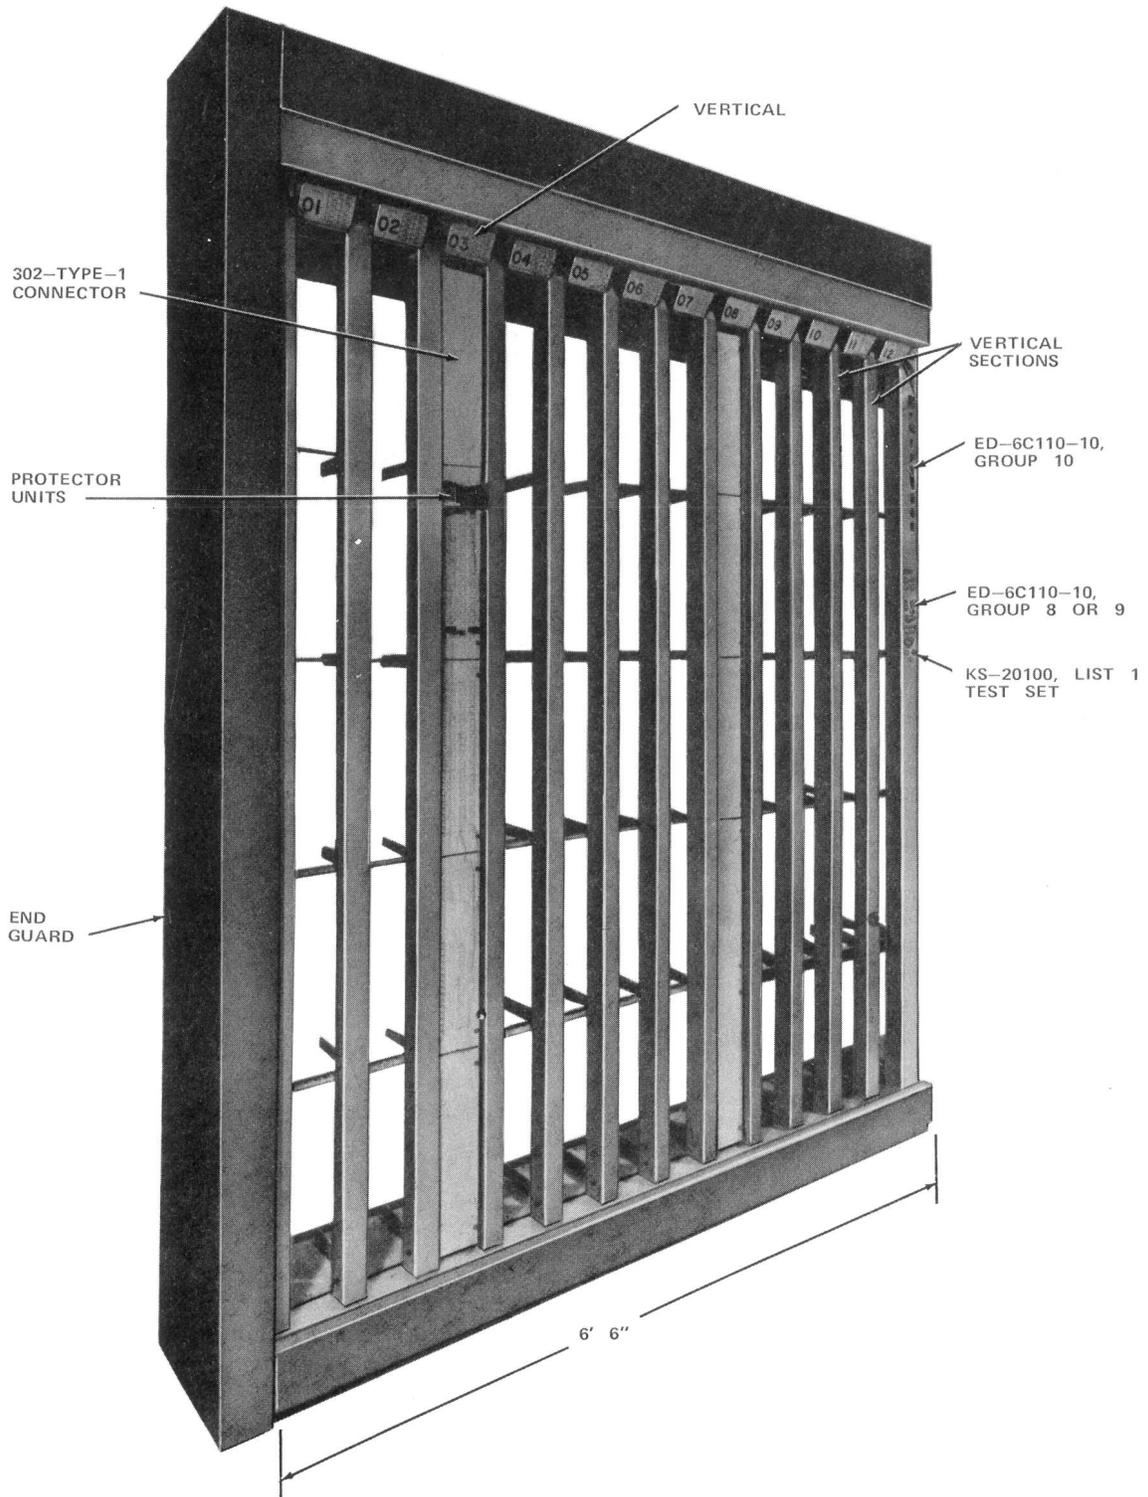

Fig. 1—Modular Protector Frame (ED-1A220-31)
4.01 Three basic types of protector frames (PF) are used for COSMIC I main distributing frame installations. The modular PF (ED-1A220-31) mounts 302-type-1 connectors **only** (Fig. 1). The high